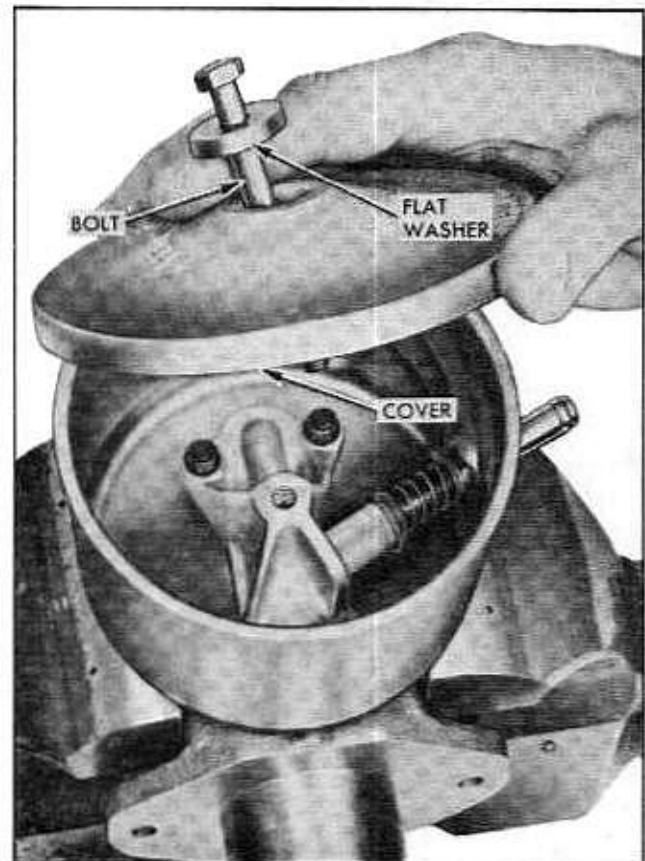

Fig. 9-69 Removing Reservoir Cover
1. Remove reservoir cover bolt, flat washer, and reservoir cover with gasket (Fig. 9-69).